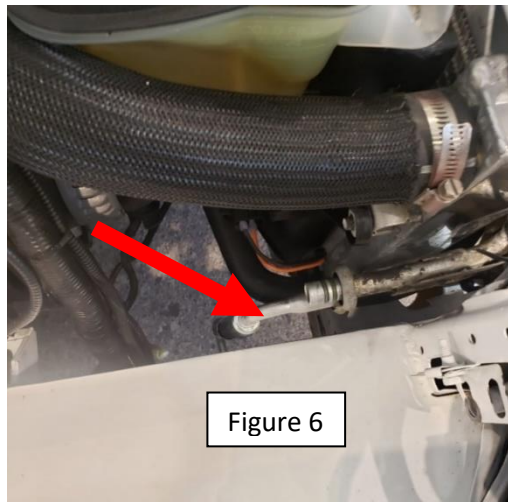
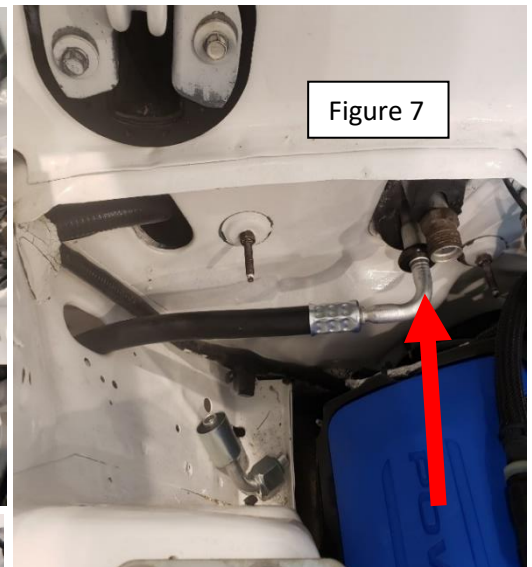

Figure 6
Figure 7
10. Connect small hose with size 6 markings with two 90-degree fittings in close succession to the bottom fitting on the condenser (Figure 6). Route the rest of line under frame rail and up as if the plastic fender liner were still installed and through the fender behind strut tower and connect to spring lock fitting on firewall for the evaporator (Figure 7).